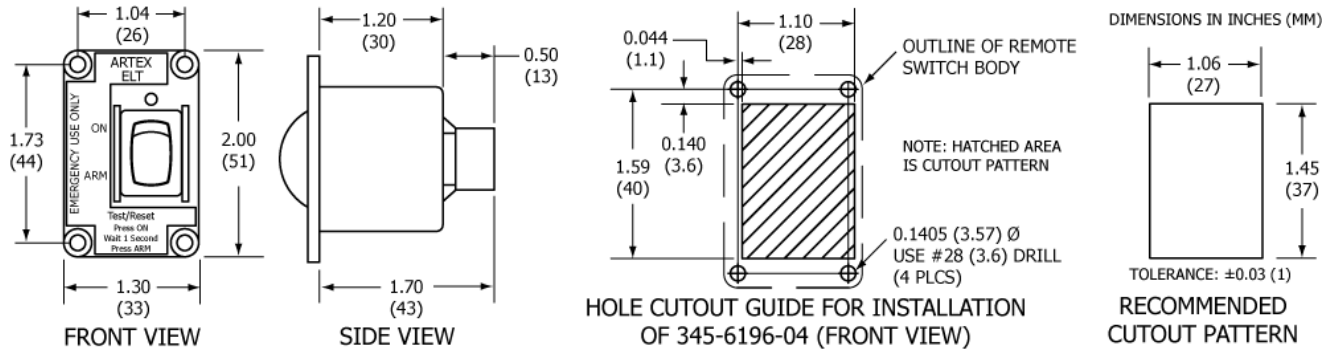

Figure 18 Remote Switch Outline and Dimensions
- 2) The switch assembly requires a space approximately 2.0 x 1.3 in. (51 x 33 mm) on the panel surface and behind the panel. See Figure 18 Remote Switch Outline and Dimensions.
- 1) Mark out the cutout on the cockpit panel. See Figure 18 Remote Switch Outline and Dimensions.